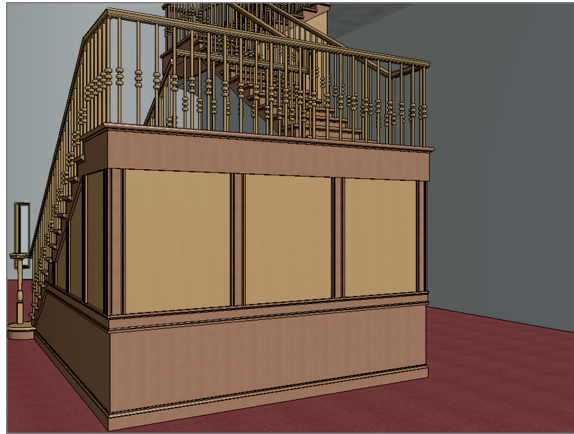

FIGURE BC1.21: The final walls with the sweeps added
18. Add vertical rails at around 3'-0" (900 mm) to the other walls, as well. Your walls should look like Figure BC1.21.